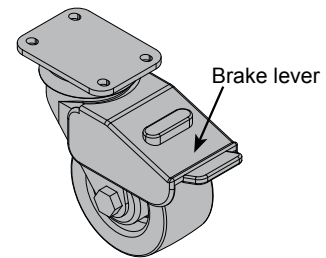

Figure 8
1. To lock the wheel rotation, press the brake lever. **Figure 8.**